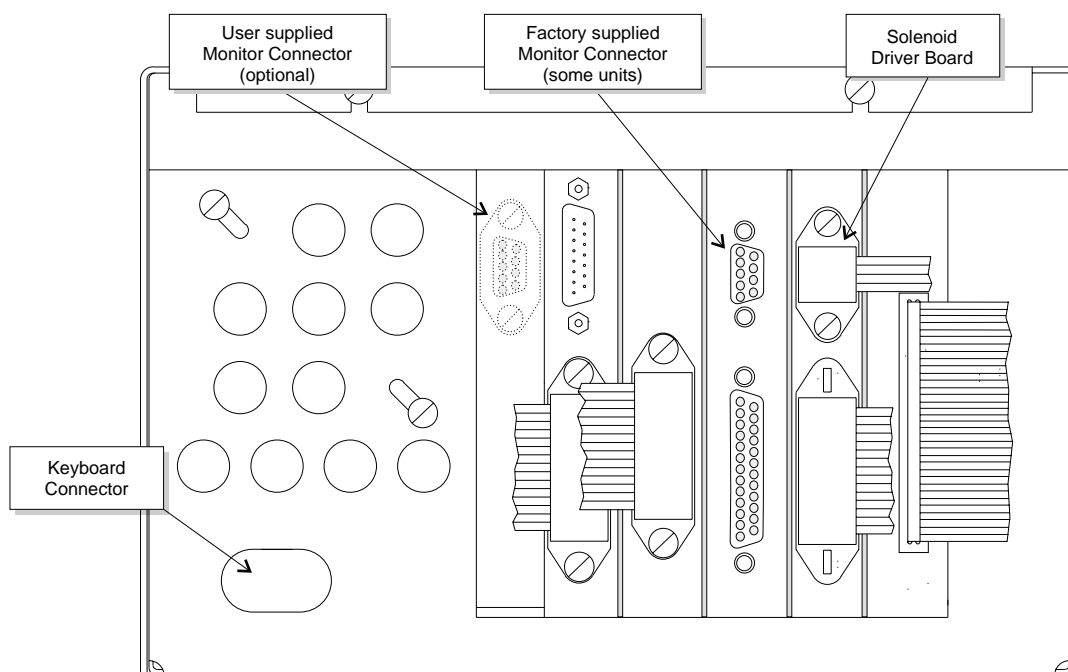

Figure 9.3 - Electrical Module Front View
4. Connect the keyboard to the keyboard connector on the front of the electrical module (see figure 9.3).